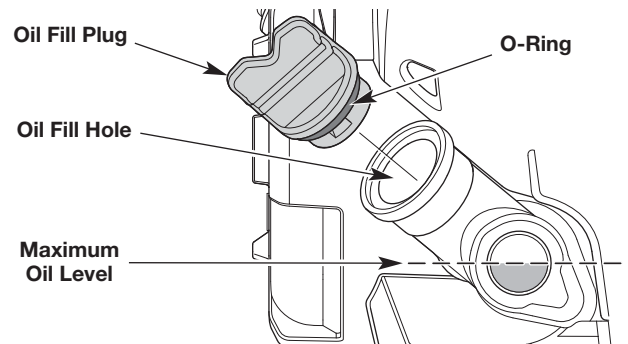

Fig. 12
- Look into the oil level window; use a flashlight if necessary. **The oil level should fill the window approximately halfway** (Fig. 12). If the oil level is too low, add oil. Refer to *Adding Oil*.
- Clean the area around the oil fill plug (Fig. 12) to prevent debris from entering the oil fill hole.
- Add oil to the oil fill hole until the oil level is approximately halfway up the oil level window (Fig. 12).
**NOTE:** Make sure the O-ring is in place on the oil fill plug (Fig. 12).
1. Clean the area around the oil fill plug (Fig. 12) to prevent debris from entering the oil fill hole.